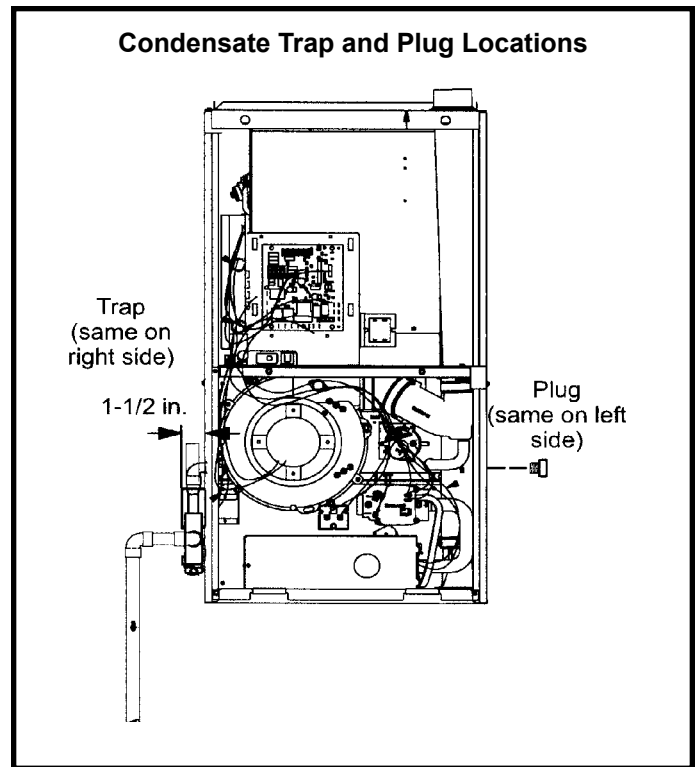

Figure 47
This unit is designed for either right or left side exit of condensate piping in downflow applications. Refer to Figure 47 for condensate trap locations.
2. Use a large flat head screw driver or a 1/2" drive socket extension and remove plug (Figure 47) from the cold end header box at the appropriate location on the side of the unit. Install provided 3/4 NPT street elbow fitting into cold end header box. Use Teflon tape or appropriate pipe dope.